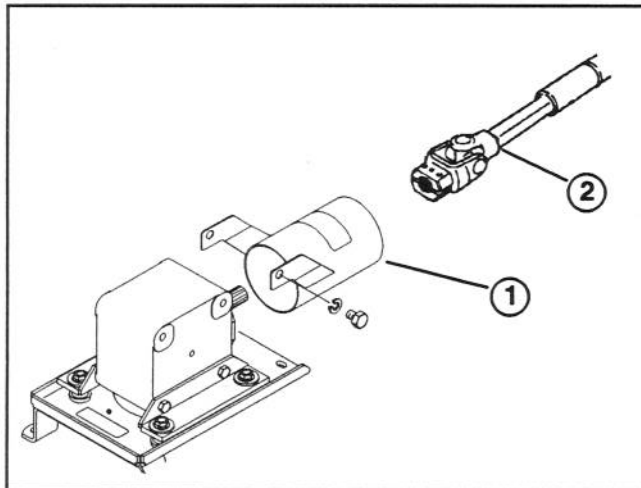

Figure 3
1. Slide PTO Shaft Guard onto PTO shaft, positioning guard as shown in figure 3.
3. Secure PTO Shaft Guard mounting brackets to holes in gear box with (2) capscrews and lockwashers (Fig. 3).